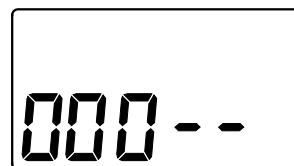

FIG. 38
1. Press and hold the SELECT button until the screen in Figure 38 is displayed.